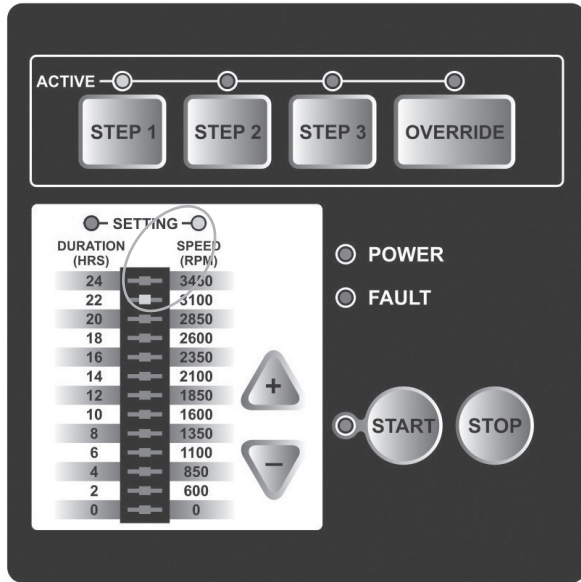

Figure 4
Four (4) programmable buttons lay across the top of the Keypad (See Figure 4 - shows the speed being set at 3100 RPM). The LED directly above each button when lit indicates it is in operation or active. To create a custom schedule and change the factory defaults settings, follow these steps:
3. Using the UP (+) or DOWN (-) arrows, toggle to the desired speed. The Bar graph will show the setting as you toggle up and down (See Figure 4 - shows the speed being set at 3100 RPM).